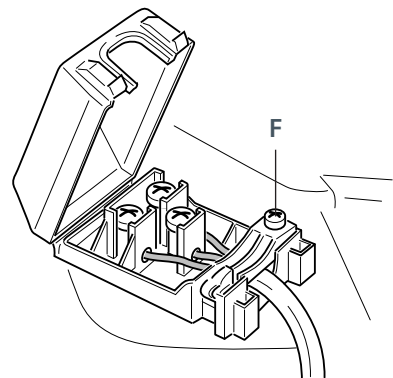

Fig. 14 Fixing the power supply cable
- 2 Open the cable clamp by unscrewing screw **F** (Fig. 14) and unscrew the terminal screws.